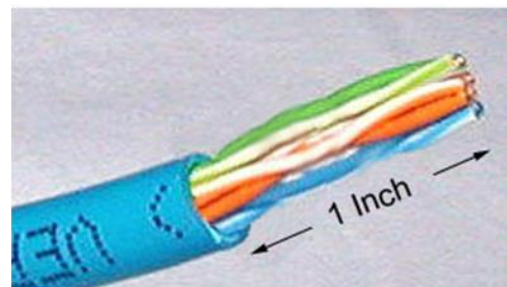

Figure 4 Cut cable end and leave 1 inch
Step 1 Cut into one side of the patch cable plastic sheath and leave about 1 inch (2.5 cm) from the end of the cut cable (Figure 4).